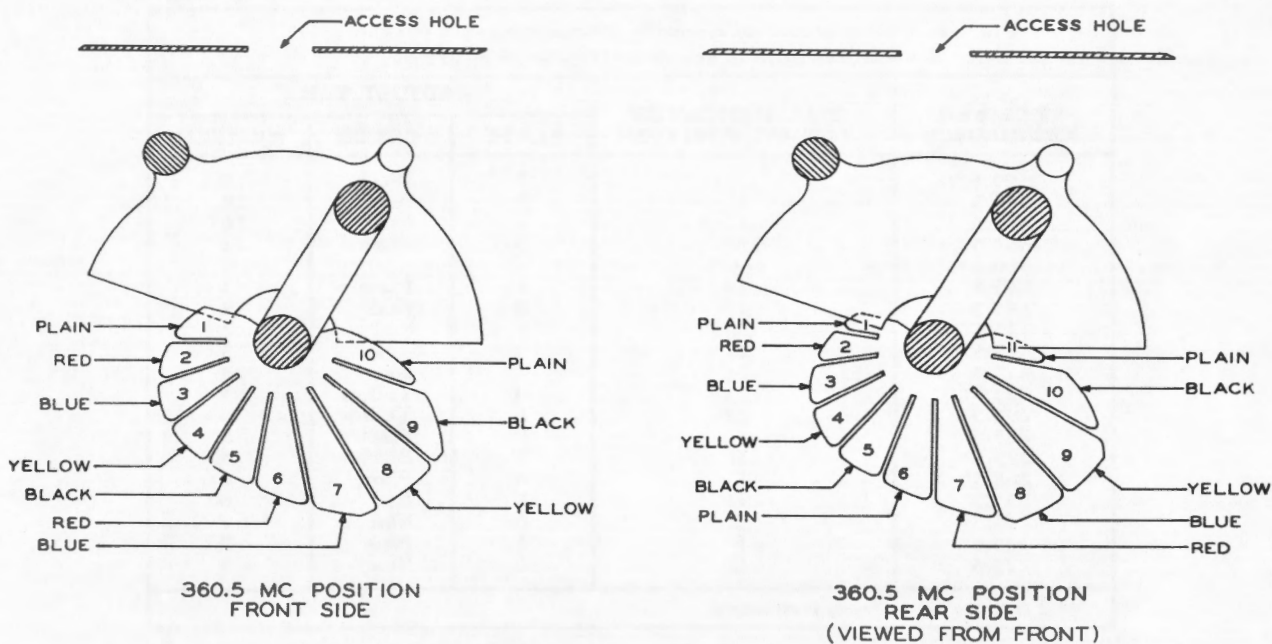

Figure 6-11. Radio Receiver R-278B/GR, R-F Amplifier, Tuner Capacitor Sectors
Step 4. The rest of the tuning procedure consists of bending tuner tabs at each 10-mc frequency interval to bring each tuner to resonance at that frequency. Do this while using the tuning wand (figure 5-14) to determine whether more or less capacitance is needed. Operate the tracking control switch in the RUN position to turn the tuners so that their tabs are accessible. Bend the correct tab (figure 5-14) toward the stator plate for more capacitance or away for less capacitance. Refer to table 6-3 and figure 6-11 to determine which tab to bend at each frequency. The sequence to be followed is: trimmer adjustment at 360.5, tab bending at 365.5, 375.5, 385.5, 395.5, 355.5, 345.5, etc., through 225.5 mc.